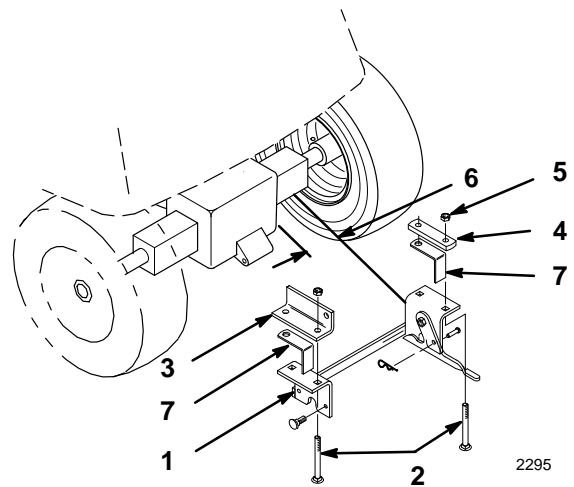

Figure 10
15. Center hitch on axle housing and install with (4) 3/8 x 3-3/4" carriage bolts, left side angle plate (with hole rearward), right side strap and 3/8" lock nut as shown (Fig. 10).